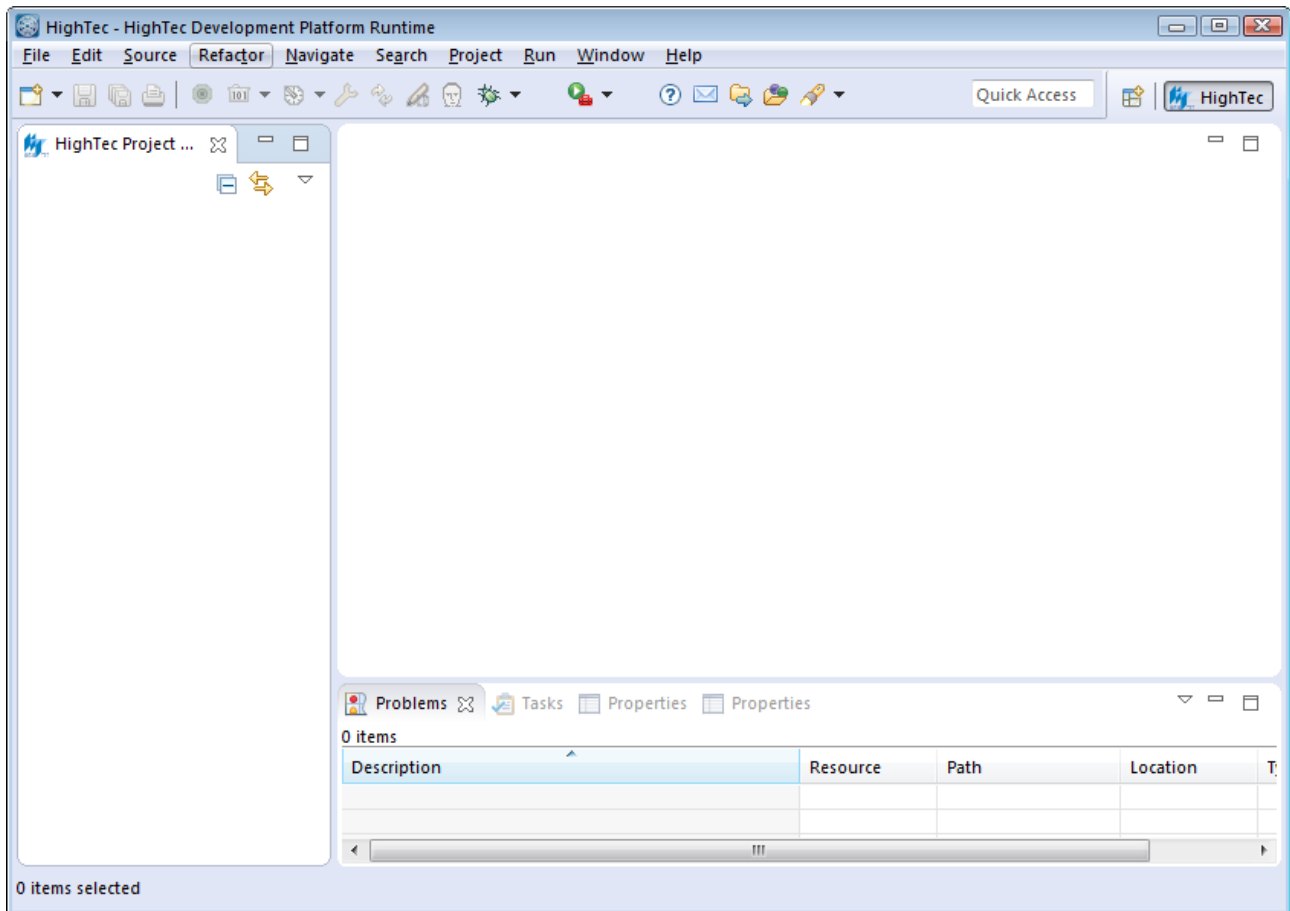

Figure 9 HighTec perspective
9. Click the **Workbench** on the right side of the view to go to the workbench. Assuming first start of eclipse, **HighTec perspective** (Figure 9) appears, otherwise last saved workbench layout.